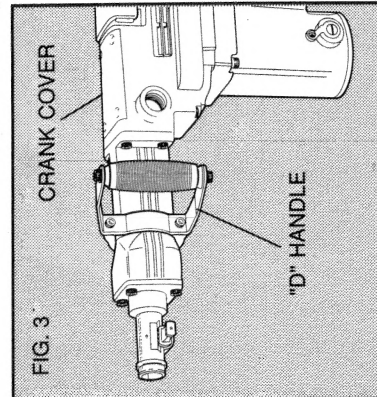

FIG. 3
2. Remove the Crank Cover shown in Figure 3.